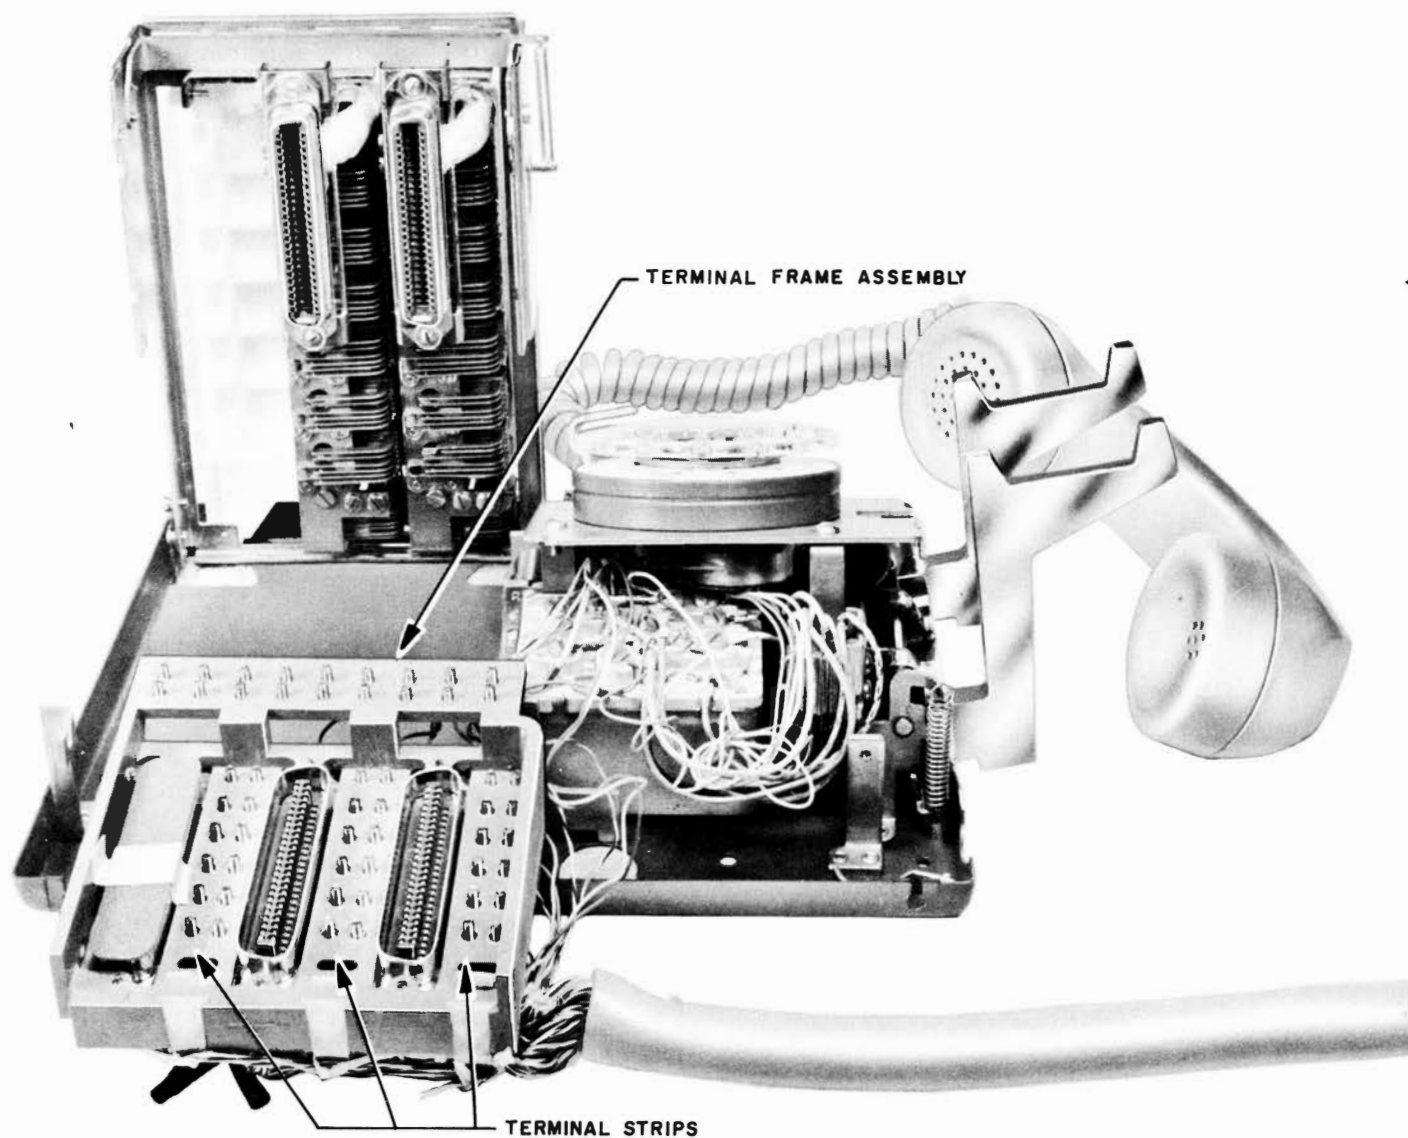

Fig. 18 — 630-Type Telephone Set Showing Removal of Cord Frame
7. Remove screws on right and left sides of key frame (Fig. 18).